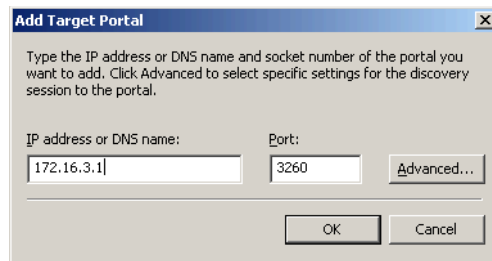

Figure 23-22 Add target portal
3. In Figure 23-22, enter the IP address or host name of one of the iSCSI interfaces of the DS3300. These are listed for our configuration in Table 23-1 on page 546.